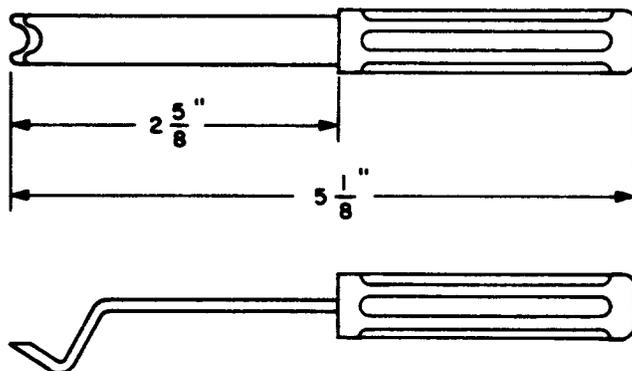

Fig. 1—274 Signal Plug Extractor Tool
2.01 **274:** The 274 signal plug extractor tool (Fig. 1) is used in extracting signal plugs from multiple jacks and 350A make-busy plugs at outgoing trunk test frames.